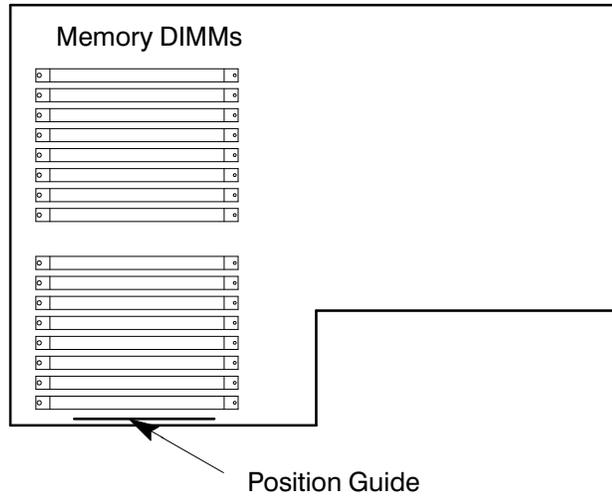

Figure B-22. CPU Assembly Orientation
- 6.** To install a new memory DIMM, turn the CPU assembly until the memory DIMMs are in the position shown in Figure B-22.
7. Refer to the Position Guide on the CPU board that states, “<— POSITION MEM MODULE AS SHOWN,” as shown in Figure B-22.